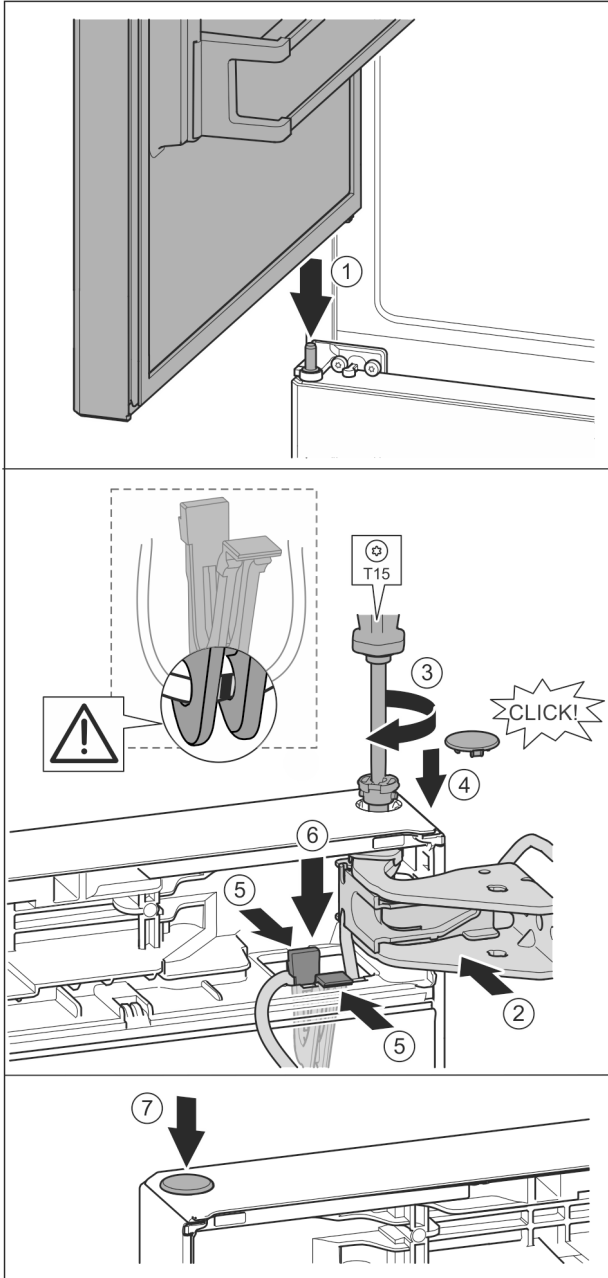

*Fig. 40*
- ▶ Carefully lift up the plugs with a slotted screwdriver and remove them. *Fig. 40 (1)*
- ▶ Position the door from above onto the lower bearing pins. *Fig. 40 (2)*
- ▶ Insert the centre bearing pin through the centre bearing bracket into the lower door. Make sure that the catch mechanism is pointing to the rear. *Fig. 40 (3)*
- ▶ Insert the plugs again on the other side of the door. *Fig. 40 (4)*